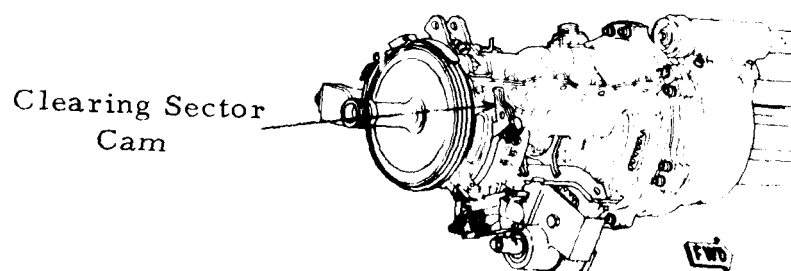

Figure 9-12. Right Side of M61 Showing Position of Clearing Sector Cam
- a. Push in and secure the clearing sector cam. This cam is located on the bottom of the receiver near the back plate of the gun (see figure 9-12)
The SUU-16 and SUU-23 gun pods are currently being used in SEA on F-100 and F-4 series aircraft. The SUU-16 contains the M61 gun, while the SUU-23 contains the GAU-4 gun. Both pods carry approximately 1200 rounds of ammo contained in a drum. These pods can be loaded on any external station of an aircraft that has 30-inch suspension and the weight capacity. These pods weigh approximately 1750 pounds each (see figures 9-12 and 9-15).